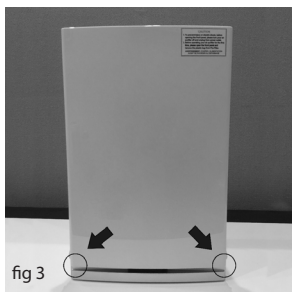

fig 3
- Open the front panel, using the side tabs located on the lower panel and pull towards you, then lift upwards. (fig 3)